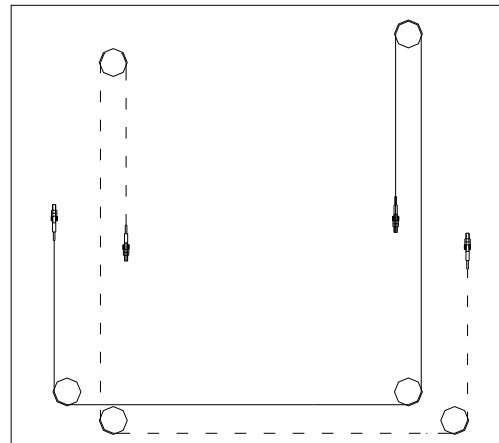

Fig. 30
- ◆ Install the balance cable according to **Fig. 30**. The cable also can be crossed from the hole on the board before the fixing of both columns.